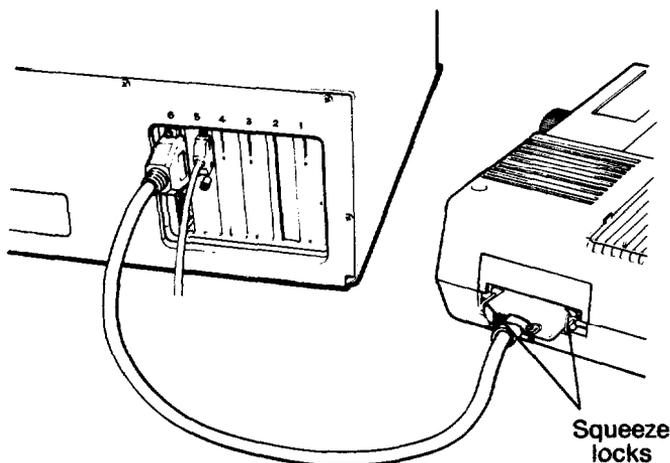

Figure 1-9. *Connecting the printer*
4. Connect the other end of the cable to the printer as shown in Figure 1-9. To secure the cable, tighten the squeeze locks at each side of the printer port and push them into the connectors on each side of the cable.